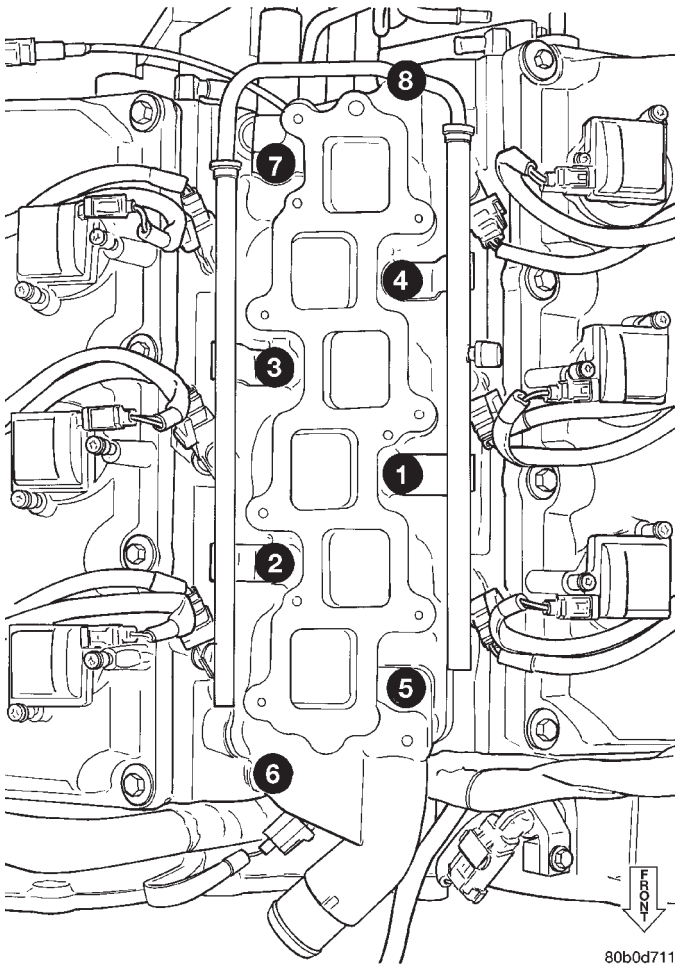

Fig. 15 Lower Intake Manifold Tightening Sequence
(2) Inspect gaskets for tears or cuts. Replace as necessary.
(3) Position gasket and intake manifold on cylinder head surfaces.
(4) Install fuel rail with injectors.
(5) Install intake manifold bolts, and gradually tighten in sequence shown in (Fig. 15) until a torque of 28 N·m (250 in. lbs.) is obtained.
(6) Install screw attaching fuel rail support bracket to the throttle body support bracket.
(7) Connect fuel supply hose to fuel rail.
(8) Connect heater hose quick connect tee to heater tube at rear of manifold.
(9) Connect electrical connectors to fuel injectors and coolant temperature sensor.
(10) Install upper intake manifold. Refer to procedure outlined in this section.
(11) Fill cooling system. Refer to Group 07, Cooling System for procedure.
(12) With the DRB scan tool use ASD Fuel System Test to pressurize system to check for leaks.